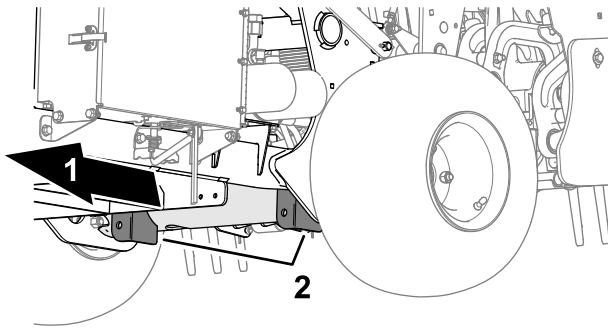

Figure 128
3. Place the jack securely under the frame plate just inside of the rear wheel (Figure 128).